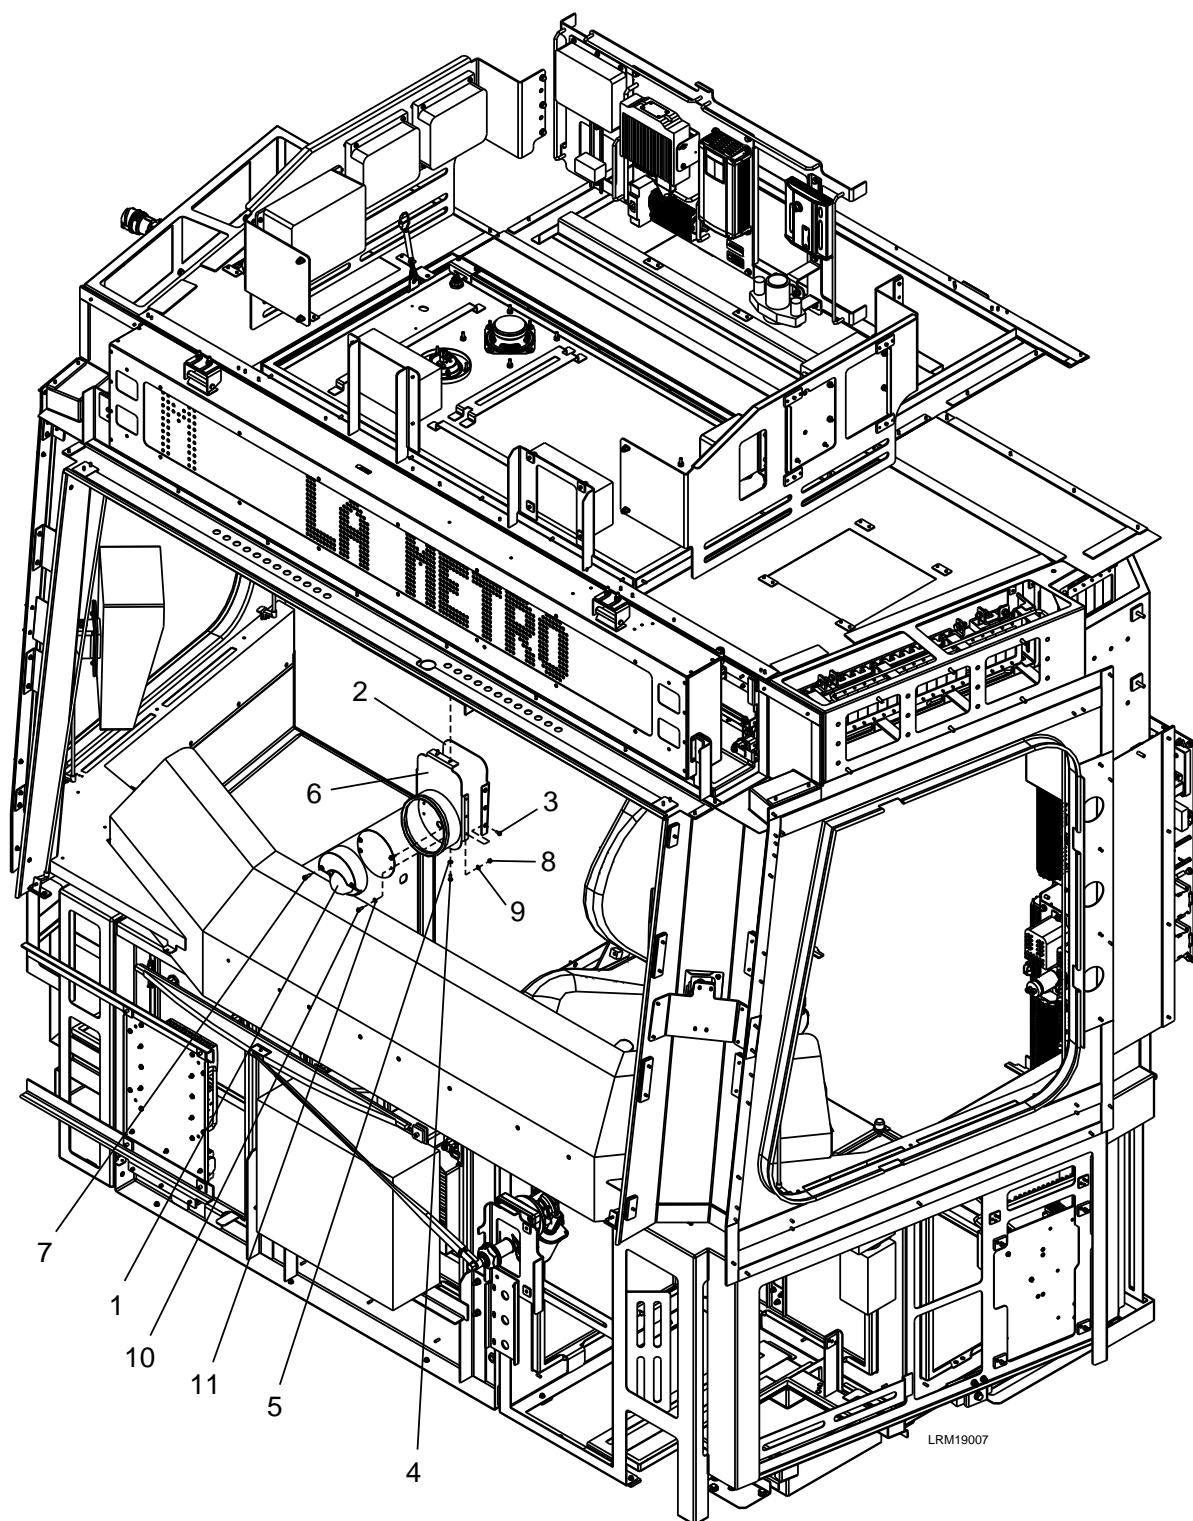

Figure 7-4: Forward View Camera
1. Remove six M4 x 10 screws (3) from cover (2). See Figure 7-4.
2. Remove the cover (2).
1. Install Forward View Camera (1) onto bracket (6) aligning the mounting holes. See Figure 7-4.
2. Install the four M4 plain washers (11), M4 x 12 screws (10), M4 plain washers (9), and M4 ESNA nuts (8).
5. Install the two screws (7) to secure the camera housing.
6. Install the Forward View Camera (1) onto bracket (6) aligning the mounting holes.
7. Install the two M4 x 12 screws (4), M4 plain washers (5).
10. Install the cover (2) aligning the mounting holes.
11. Install six M4 x 10 screws (3) into the cover (2).